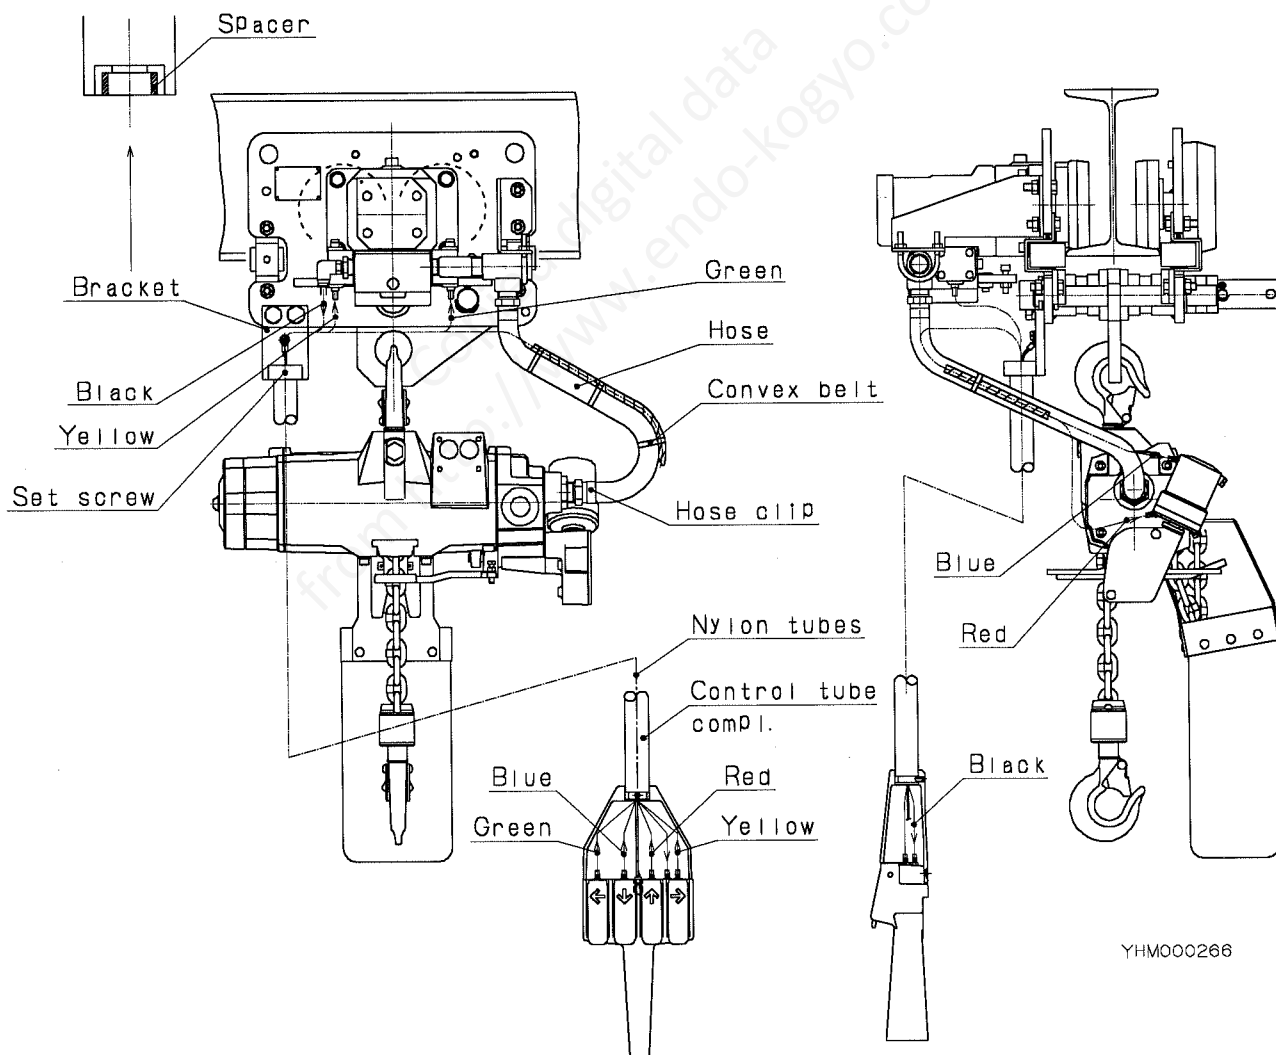

Fig. 7
- When the air hoses are connected to the trolley and the hoist, pour about 10 drops of lubricant into the air connections of the trolley and the hoist. (See Chapter 8, Section 8.1 (4) "Recommended Lubricants".)
4.8 Air Connection (See Figure 7)
The arrows on the buttons indicate the traveling directions of the trolley viewed from the air motor side as shown in Figure 7.